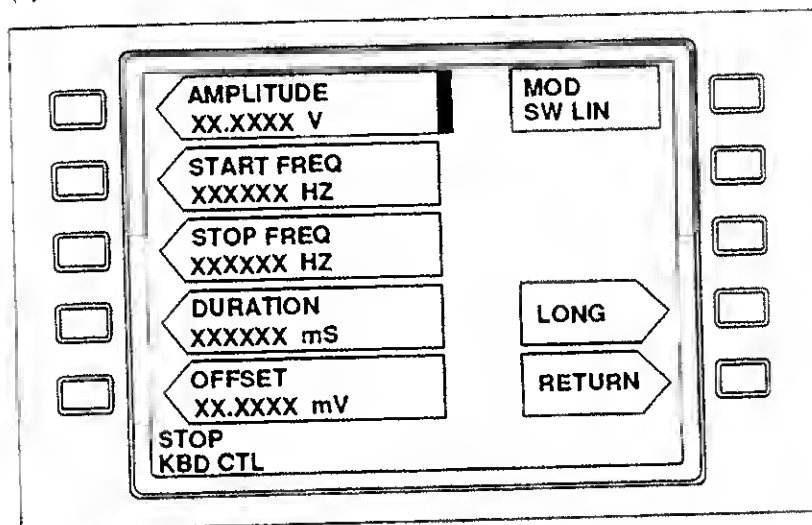

Figure 3-15. NORMAL Parameter Setup for SW LIN and SW LOG
- (1) Select either SW LIN or SW LOG from the MODULATED WAVES menu. The submenu shown in Figure 3-15 should appear on the screen. This is the NORMAL parameter submenu.